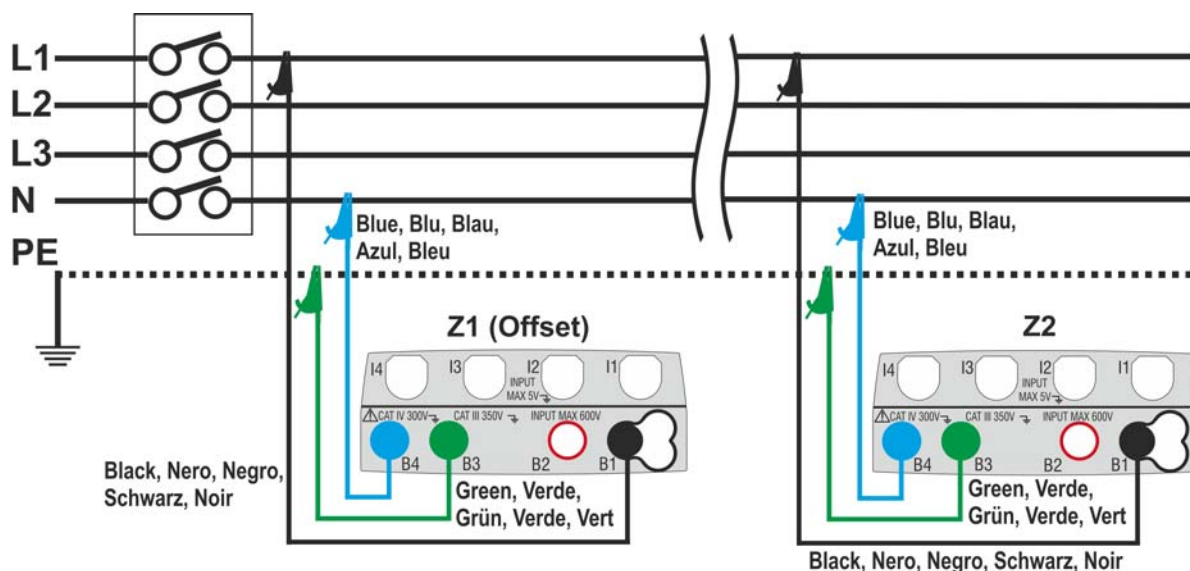

Fig. 33: Connection of the instrument for L-N mode voltage drop measurement
6. Go to step no. 9 in case the value of Z1 (Offset) has been set manually. **In case of the value of Z1 (Offset) has NOT been manually set** connect the instrument to the initial point of the main line being tested (typically downstream to a protection device) according to Fig. 33 or Fig. 34 in order to carry out the first **Z1 (Offset)** impedance measurement. In this case the instrument will measure the impedance upstream of the initial point of the main line being tested taking it as start reference. The following screen (referred to L-L measurement) appears on the display
9. Connect the instrument to the final point of the main line being tested according to Fig. 33 or Fig. 34 in order to measure the **Z2** impedance at the end of line. The screen to the side is displayed. Note the previously measured Z1 (Offset) value displayed